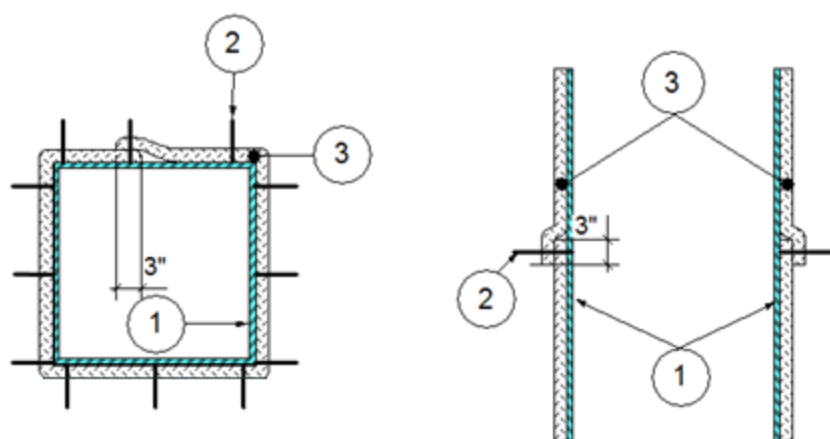

Figure 1. Cross-Sections - Vertical Duct Condition B
- 2. PINS:** Refer to Figure 1. Use min. 12 GA steel impaling pins to secure the duct insulation (Item 3). Select pin length as required to penetrate all layers of duct insulation (Item 3) and penetration firestop insulation collars (Item 7C) by a min. of 1 in. without compression. Weld the pins to the ventilation air duct (Item 1). Space pins longitudinally at max. 21 in. oc. and centered on duct insulation (Item 3) overlaps or collars. Locate pins transversely max. 12 in. on center (oc) on all sides of the ventilation air duct (Item 1) with a row of pins centered on the duct insulation (Item 3) overlap. Secure insulation on pins with 2-1/2 × 2-1/2 in. × 12 GA, galvanized steel clip washers.